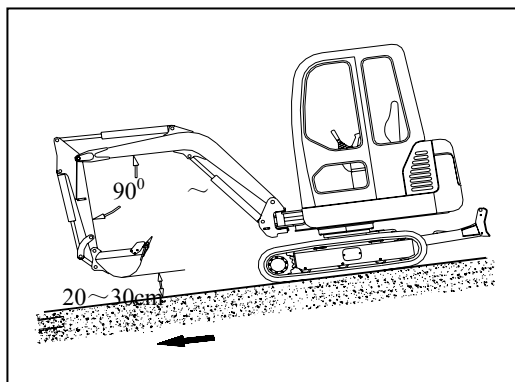

FIG. 3-18
- 8) The machine should travel at low speed and in a pose shown in FIG. 3-18 when it is traveling down on a slope of 15° or more.